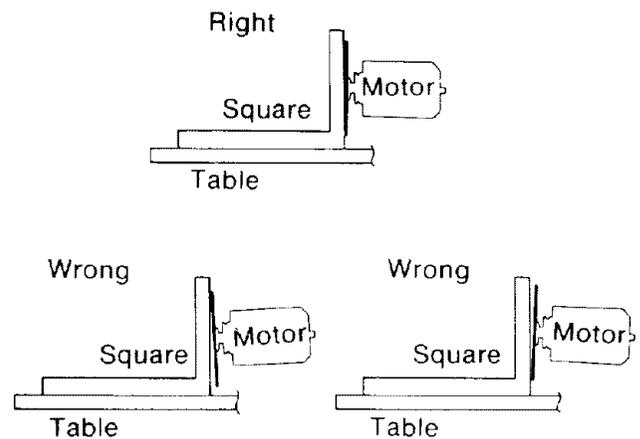

Fig. 60
7. If the square is flush with the *blade* after each rotation, no change is needed. (Figure 60) Go to the next section, or
If there is a gap between the square and the *blade* after any rotation (Figure 60), go to step 8. **Note:** Saw blades are manufactured to different specifications. Therefore a small gap is permissible on some brands.